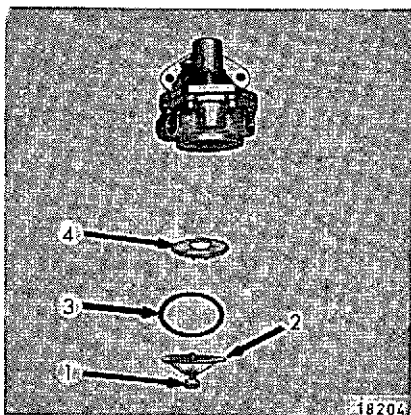

Fig. 18
**Every 120 running hours.** Remove consecutively screw 1, cover 2, gasket 3 and strainer 4 (Fig. 18). Clean strainer in fuel. When reassembling, ensure perfect tightness.